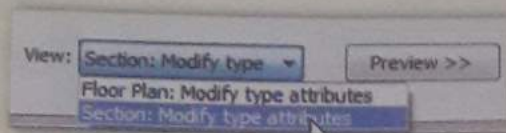

Figure 70: Preview.
6. Change the view to Section: Modify type attributes (Figure 70).